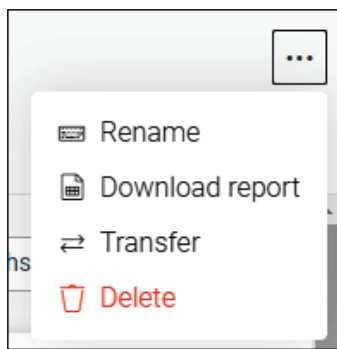

Figure 68. Download Report Option
4. Click on the “...” button on the top right menu. And select “Download Report”. See **Figure 68**.